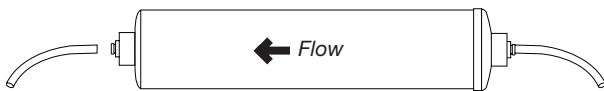

Figure 4
6. Shut off water supply again. Referring to “Using Push-In Fittings” section, insert water supply tube from refrigerator into outlet fitting (see Figure 4).